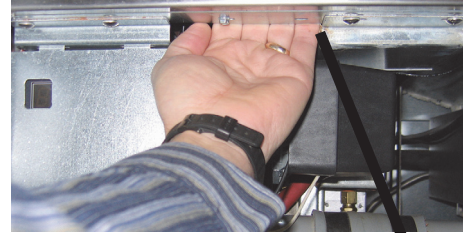
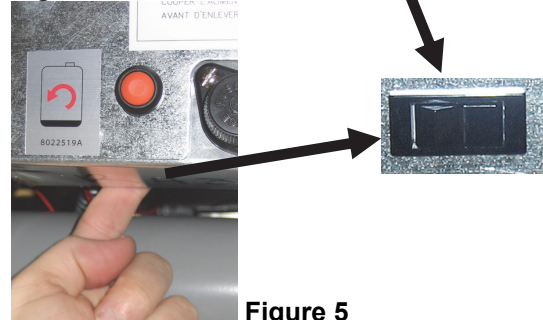

Figure 4
Figure 5
13. Cycle the control power using the hidden reset momentary rocker switch under the left control box in gas (see Figure 4) or behind the right control box in electric (see Figure 5). **HOLD THE SWITCH FOR 15 SECONDS ENSURING THE MIB BOARD HAS POWERED FULLY DOWN.**
15. An **EXCEPTION MISCONFIGURED ENERGY TYPE** error may appear on the left controller while controllers are rebooting. If this happens, enter 1234 on the left controller. The display changes to **LANGUAGE** on the left and **ENGLISH** on the right. To change the entry use the **< FLTR** and **FLTR >** buttons. To navigate to the next field, use the **▼ INFO** button. Once all parameters have been setup, press *** (2)** button to exit. **SETUP COMPLETE** is displayed.
21. **CYCLE ALL POWER ONE FINAL TIME USING THE HIDDEN RESET BUTTON BEHIND THE RIGHT CONTROL BOX IN ELECTRIC OR BELOW THE LEFT CONTROL BOX IN GAS (see Figure 4 and 5). ENSURE THE BUTTON IS HELD FOR AT LEAST 15 SECONDS TO**